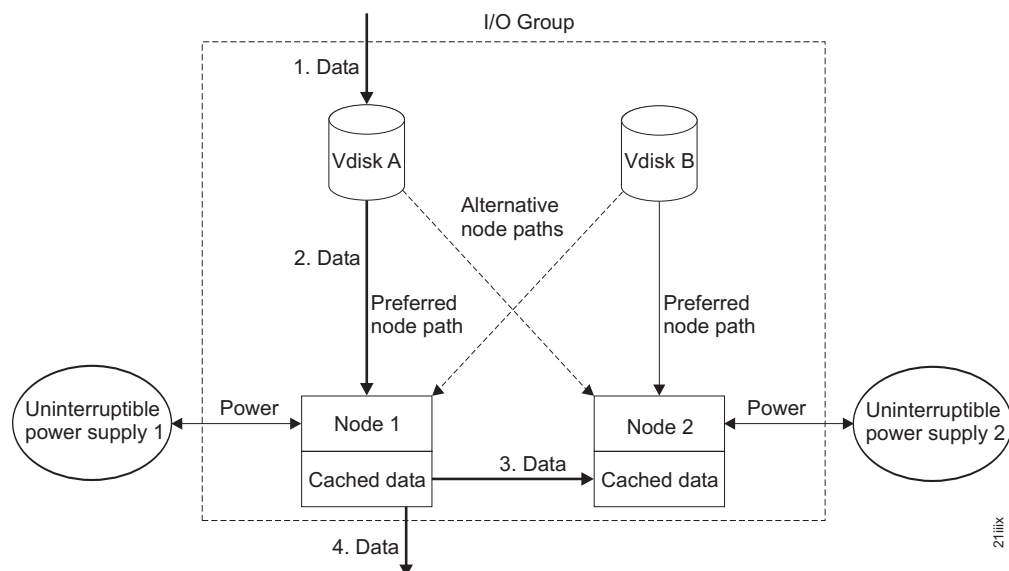

Figure 5. I/O group and uninterruptible power supply
Figure 5 shows a write operation from a host (1), that is targeted for VDisk A. This write is targeted at the preferred node, Node 1 (2). The write is cached and a copy of the data is made in the partner node, Node 2's cache (3). The host views the write as complete. At some later time, the data is written, or de-staged, to storage (4). Figure 5 also shows two uninterruptible power supply units correctly configured so that each node is in a different power domain.